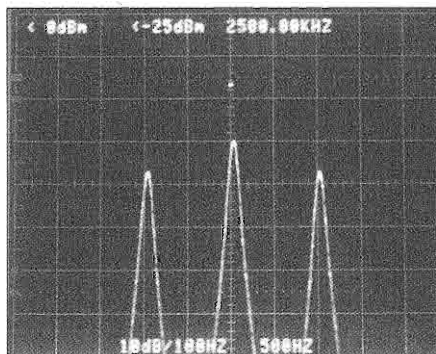
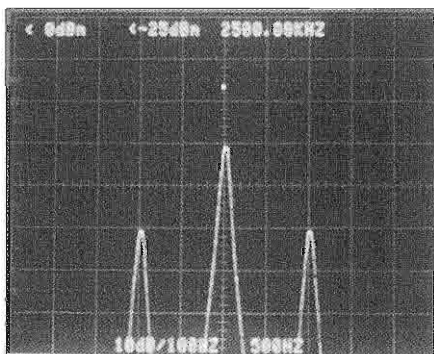

Figure 1: 100% AM modulation
Figure 2: 20% modulation.
**Figures 1 and 2** are spectrum analyzer photos showing power vs. frequency of a 2500 kHz RF carrier modulated with a 1-kHz audio tone. The vertical scale is 10dB per large division, and the horizontal scale is 500 Hz per large division. **Figure 1** is at 100% AM modulation and has the sidebands where they belong at 6 dB below carrier. **Figure 2** is at 20% AM modulation and is showing the sidebands 20 dB below carrier. The carrier level has not changed.